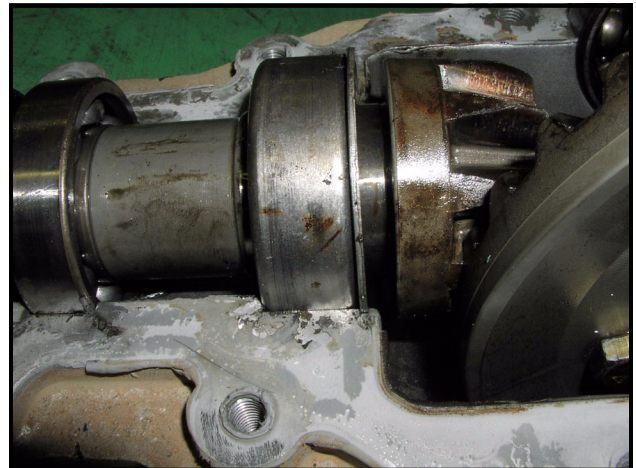

Figure 10-22 Align Pinion Bearing Washer In Groove
2. Seat bearings and align large thin pinion bearing washer in housing groove (Figure 10-22, Page 10-9).